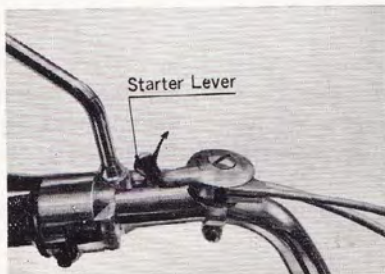

Fig. 6
Carburetor Starter Lever: See Fig. 6.
2. Push carburetor starter lever all the way forward (see Fig. 6)